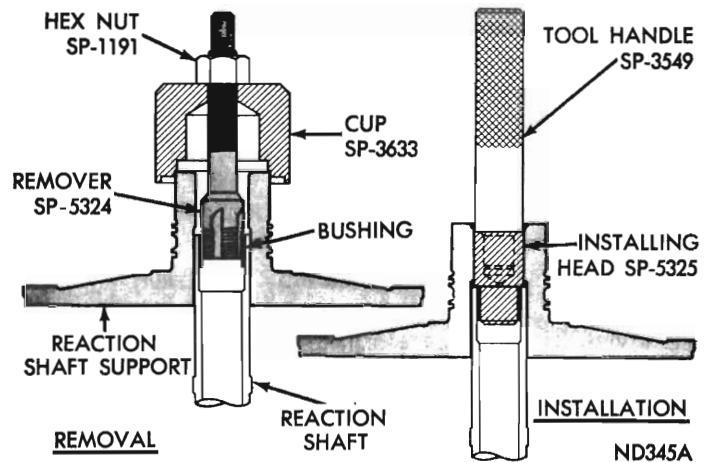

Fig. 64 - Replacing reaction shaft bushing (A-904)
- (1) Assemble remover Tool SP-5324, cup Tool SP-3633, and hex nut Tool SP-1191 (Fig. 64).
(2) With cup held firmly against reaction shaft, thread remover into bushing as far as possible by hand.
(3) Using a wrench, screw remover into bushing 3 to 4 additional turns to firmly engage threads in the bushing.
(4) Turn hex nut down against cup to pull bushing from reaction shaft. Thoroughly clean reaction shaft to remove chips made by remover threads.
(5) Lightly grip bushing in a vice or with pliers and back tool out of the bushing. Be careful not to damage threads on bushing remover.
(6) Slide a new bushing on installing head Tool SP-5325, and start them in the bore of reaction shaft (Fig. 64).
(7) Support reaction shaft upright on a clean smooth surface and install handle Tool SP-3549 in installing head. Drive bushing into the shaft until tool bottoms.
(8) Thoroughly clean reaction shaft support assembly before installation.